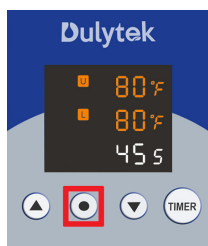
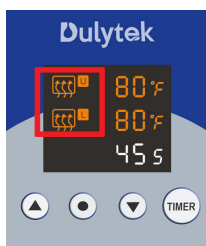

Fig. 9
Fig. 10
9. Press Set (●) button once more (Fig. 9) to record all control panel's settings. The platens start heating, and the heating icons are now displayed on the screen (Fig. 10).